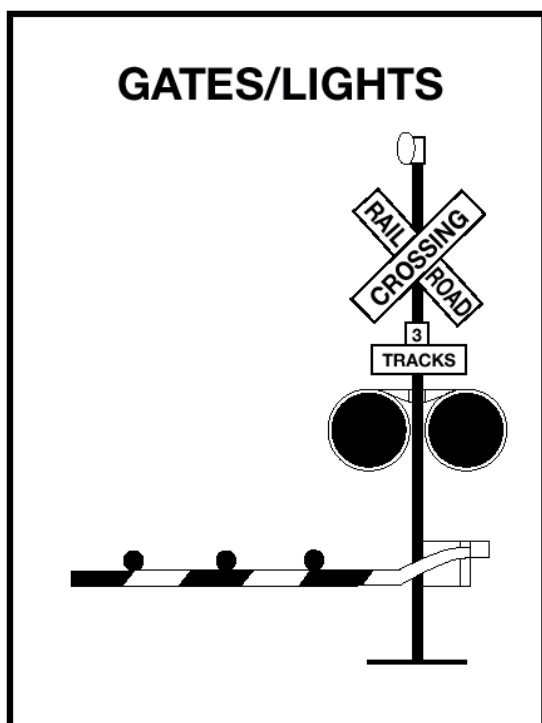

Figure 10.8
**Flashing Red Light Signals.** At many highway-rail grade crossings, the crossbuck sign has flashing red lights and bells. When the lights begin to flash, stop! A train is approaching. You are required to yield the right-of-way to the train. If there is more than one track, make sure all tracks are clear before crossing. See Figure 10.8.
**Gates.** Many railroad-highway crossings have gates with flashing red lights and bells. Stop when the lights begin to flash and before the gate lowers across the road lane. Remain stopped until the gates go up and the lights have stopped flashing. Proceed when it is safe. If the gate stays down after the train passes, do not drive around the gate. Instead, call your dispatcher. See Figure 10.8.